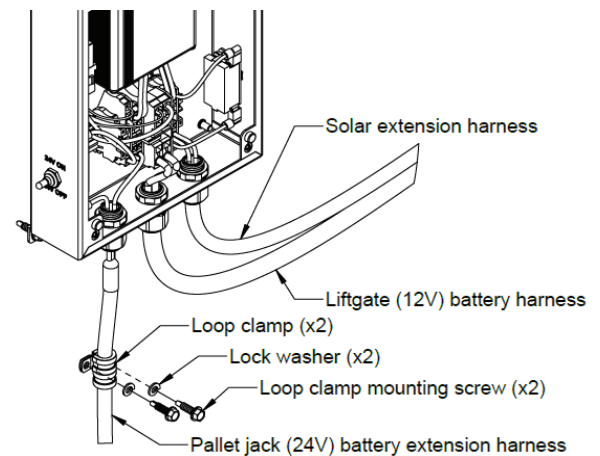

FIGURE 9
14. Mount the pallet jack battery extension harness from the unit to the wall using the loop clamps and remaining lock washers and self-drilling screws to ensure any harness strain is relieved by the loop clamps and not the unit. (Figure 9)